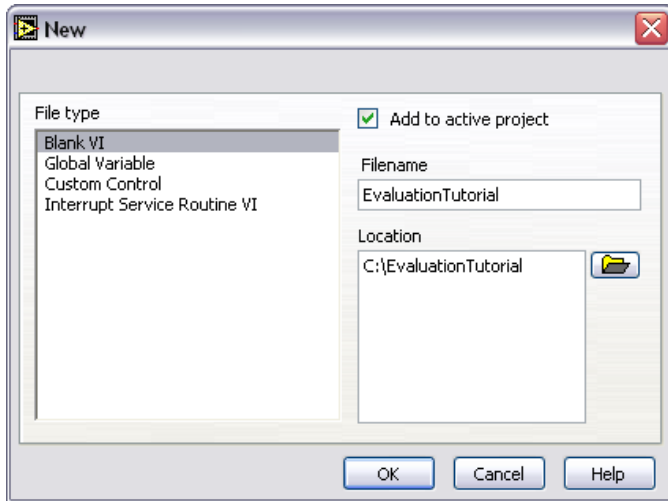

Figure 6. Adding a Blank VI to the Embedded Project
4. Enter a path in the **Location** path control or browse to the location where you want to save the VI as shown in Figure 6. LabVIEW saves the new VI in the same directory as the LEP file by default. You can save the VI in a different directory, but National Instruments recommends saving the LEP file and the top-level VI in the same directory.